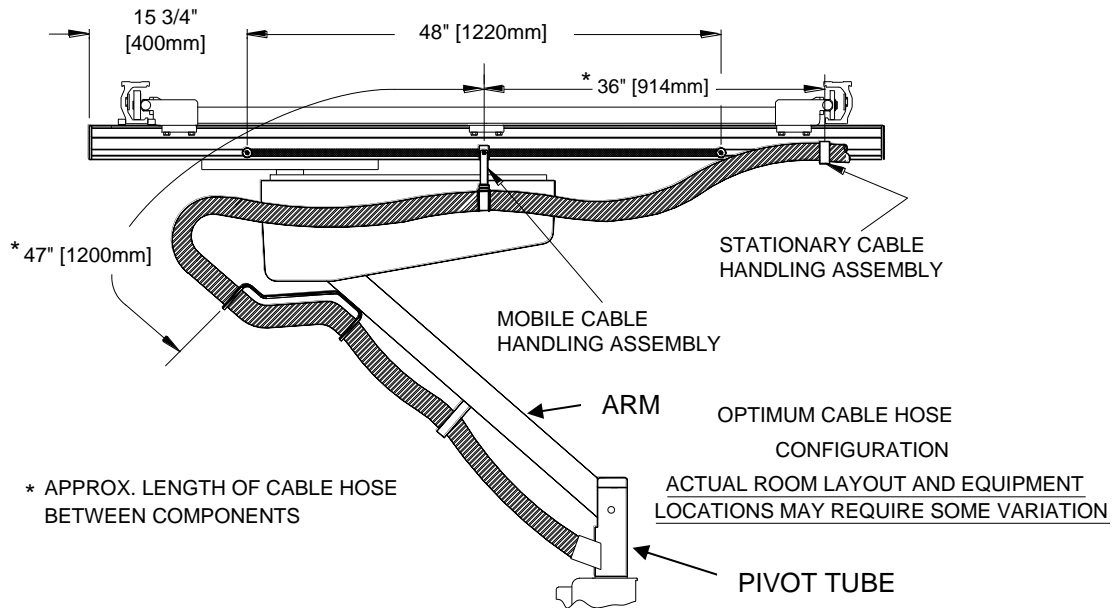

Figure 14
1. When the monitors have been properly installed, it is recommended that the cables run through the pivot tube as shown in Figure 14. Attach 2" (5cm) flexaust (provided) to pivot tube and route underneath the arm via the cable hose clamps. Rotate entire system to maximum positions. The system should not drift from any position. If it does, check that enough cable has been left to allow freedom of motion.